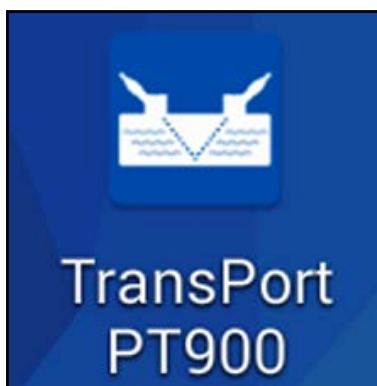

Figure 57: PT900 APP Icon
1. After the APP has been downloaded to your tablet, find the icon shown in Figure 57 below on the tablet APPS and click on it to launch the APP.